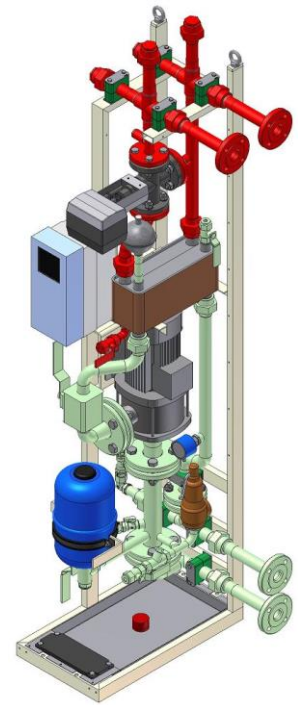

Figure 4.2-1
- Primary circuit, HXL040-PS01 (green colour in the Figure 4.2-1)
- Secondary circuit, HXL040-PS02 (red colour in the Figure 4.2-1)